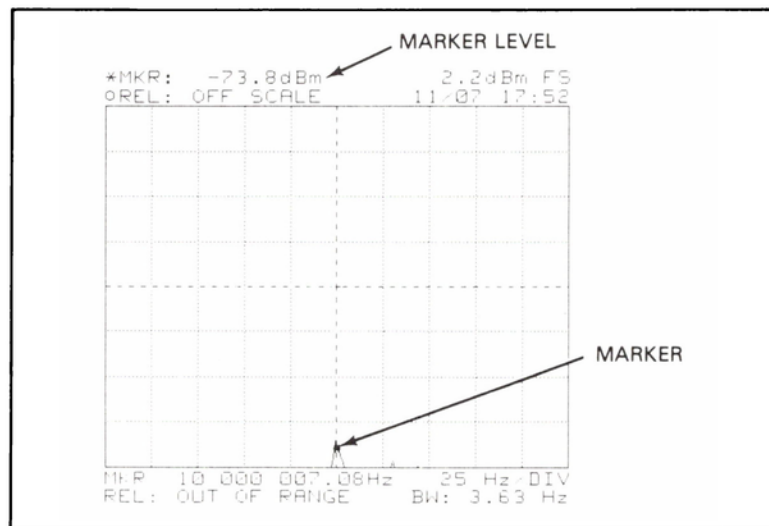

Figure 7-10. Image Rejection Test Sample Results
- i. Check that the -hp- 3582A marker level is ≤ -70 dBm (See Figure 7-10). Record the level on the Performance Test Record card.